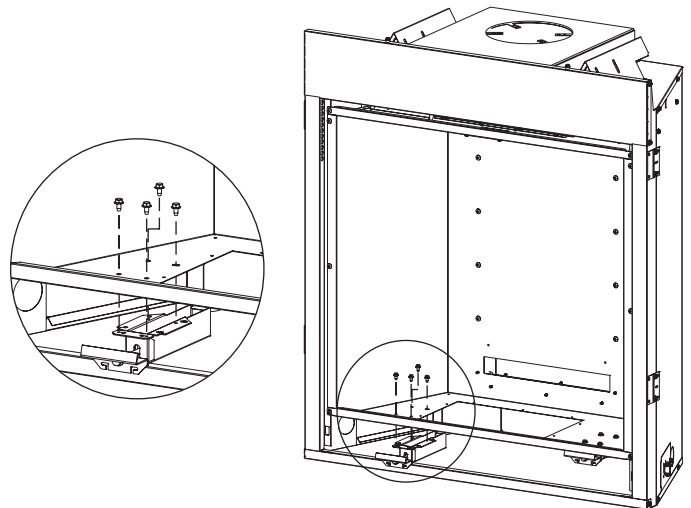

Figure 11
8. Remove the four #10 x 1/2 screws securing the latch assembly to the underside of the firebox and set aside. **See Figure 11.**
11. Reinstall the latch assembly removed in step 8. **See Figure 11.**